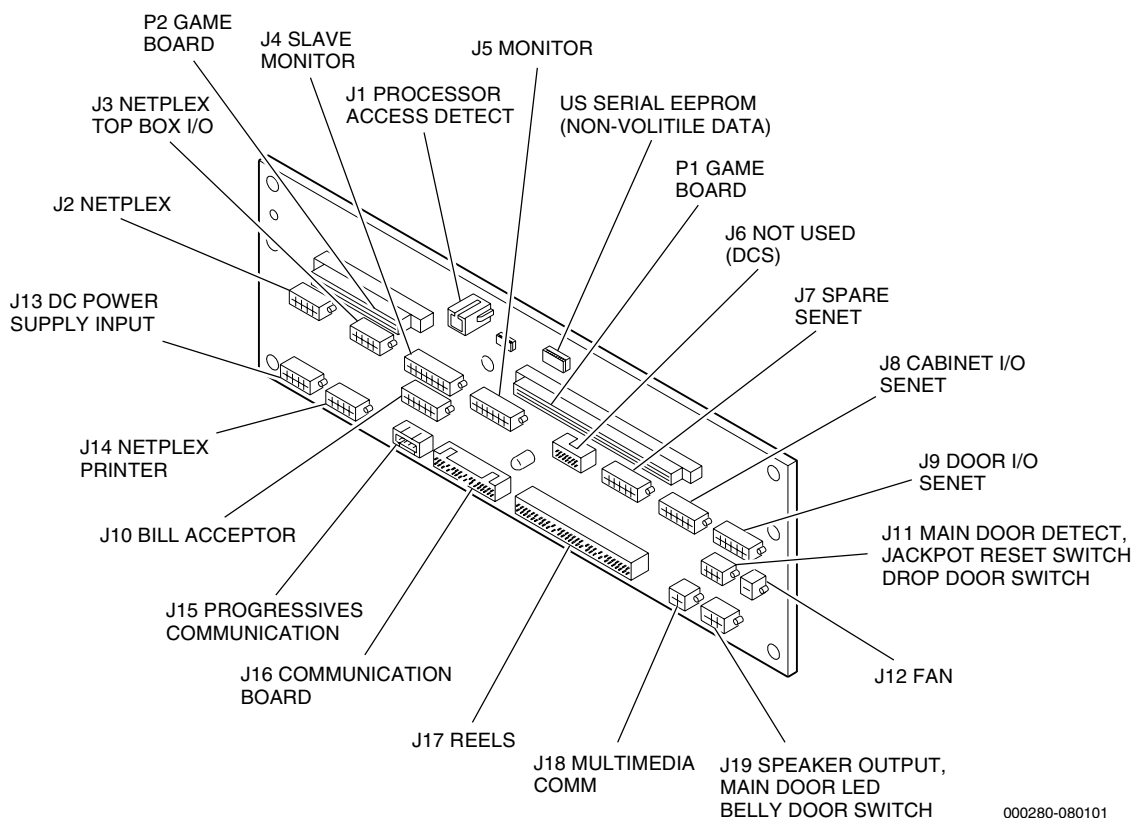

Figure 12-3. Motherboard Connectors
- b. Orient the motherboard so that connector J13 is in the lower left corner (see Figure 12-3) and carefully rest the motherboard onto the threaded standoffs on the tray.
2. Connect all harnesses to the motherboard. See Figure 12-3 and/or refer to the appropriate electronic diagrams manual for the machine wiring diagrams, if necessary.